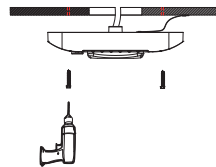

FIGURE 3
- (3) Fixed the light fixture to the ceiling with M6.3\*60MM self-tapping screws. (FIGURE 3)